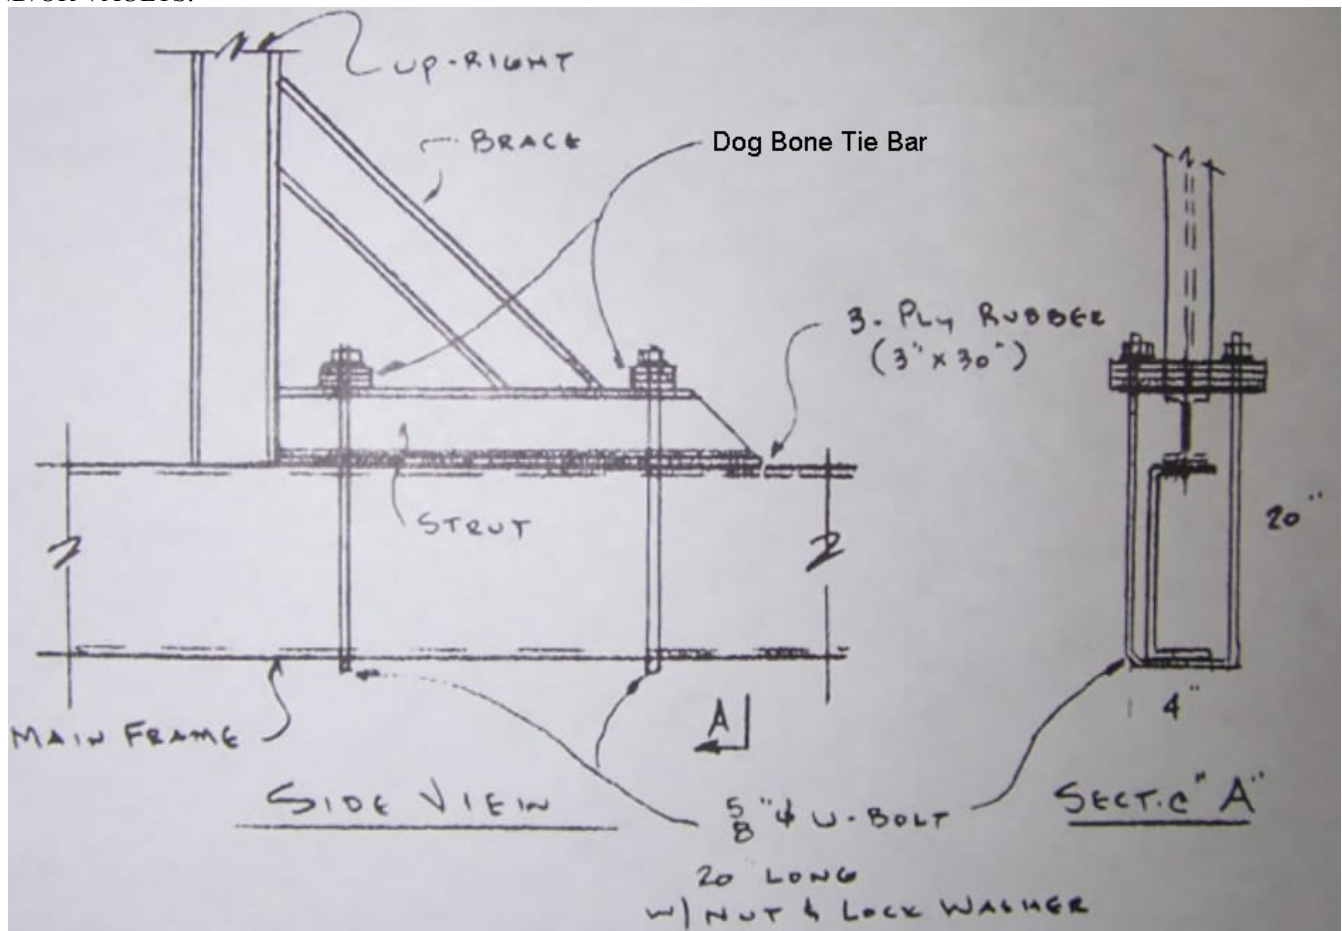

Figure 1 – Basic schematic of isolated view of Cab Rack/Vault lower leg subassembly
- Step 4) Place U-Bolts per Figure 1 above, 'U' up or down. Install tie bar per Fig. 1**